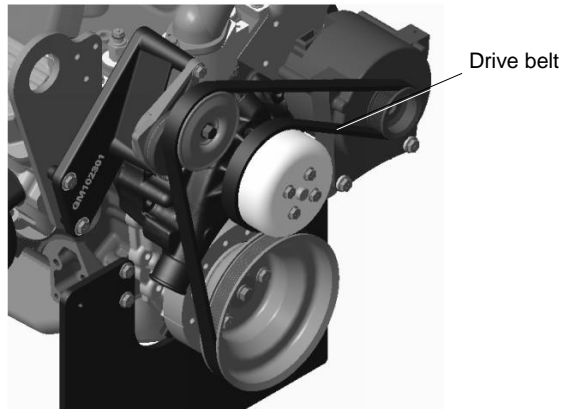

Figure 30 Drive Belt Location
2. Locate the drive belt. See Figure 30.